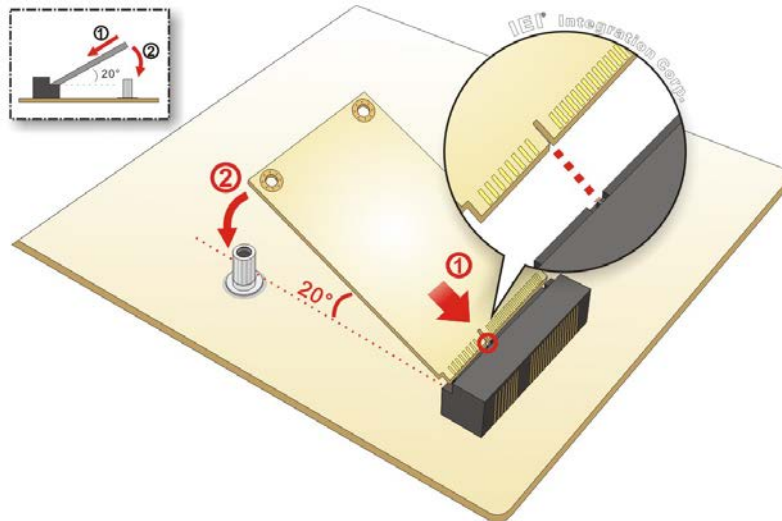

Figure 3-7: Inserting the Full-size PCIe Mini Card into the Slot at an Angle
Step 4: Line up the notch on the card with the notch on the slot. Slide the PCIe Mini card into the socket at an angle of about 20° (**Figure 3-7**).